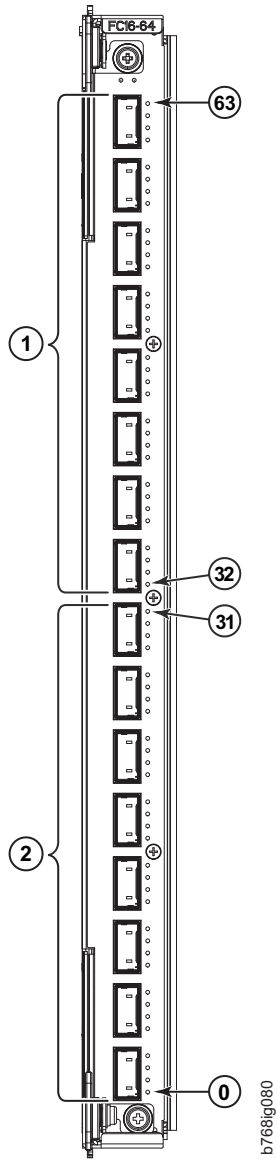

Figure 56. FC16-64 port blade
- Figure 56 on page 180 shows an FC16-64 port blade